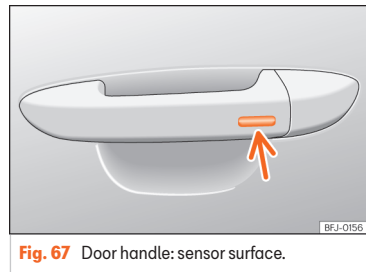

Fig. 67 Door handle: sensor surface.
- **OR:** using the Keyless Access system (only locking): Press and hold the locking sensor surface »» Fig. 67 (arrow) on the door handle for several seconds to close the windows and the sunroof. If you release the sensor surface, the closing movement stops.
Press and hold the locking sensor surface >>> Fig. 67 (arrow) on the door handle to close the sunroof. If you release the sensor surface, the closing movement stops.